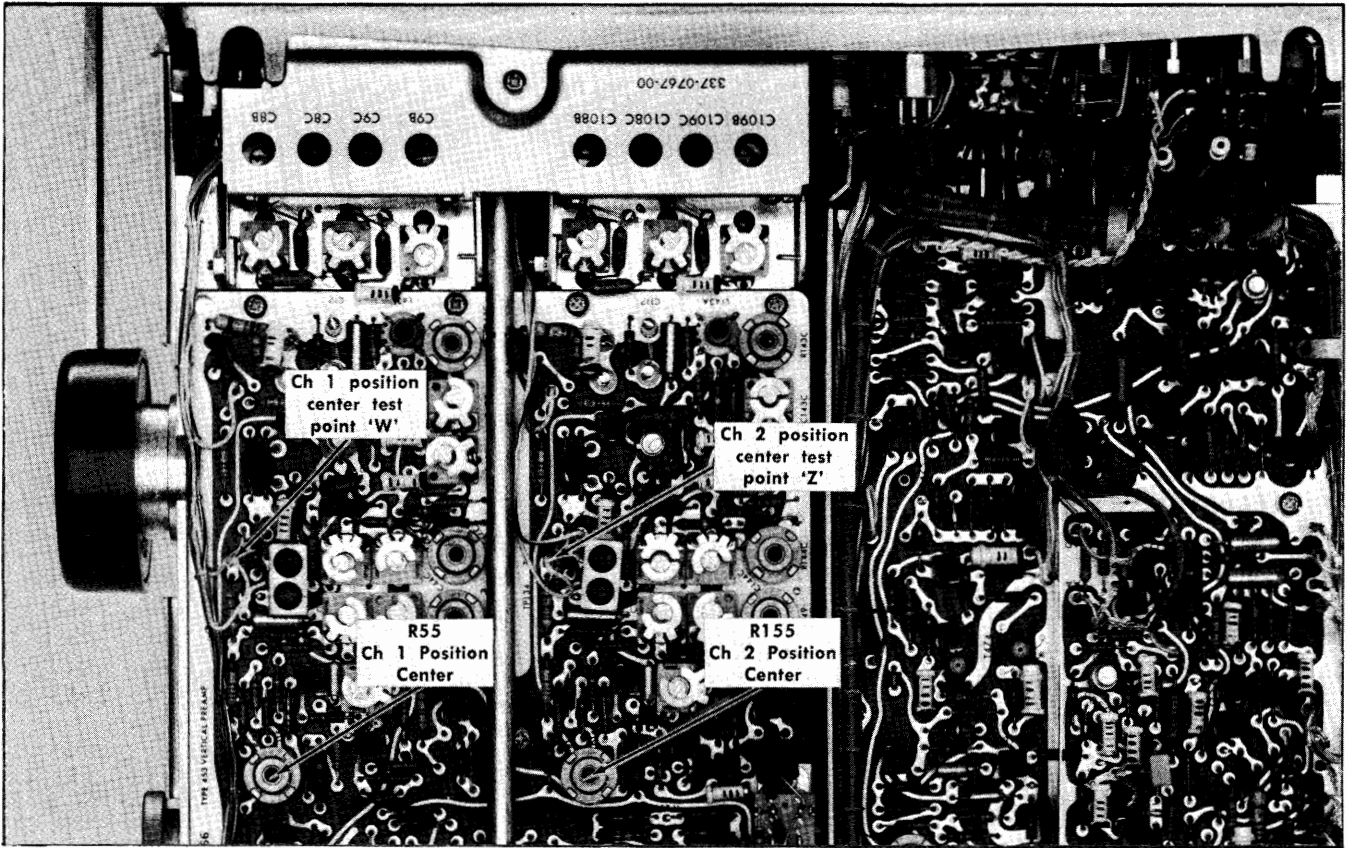

Fig. 5-11. Location of Channel 1 and 2 position center test points and adjustments (Vertical Preamp circuit board).
a. Connect the precision DC voltmeter between the Channel 2 position center test point (pin connector 'Z') on the Vertical Preamp board (see Fig. 5-11) and chassis ground.
d. ADJUST—CH 2 Position Center adjustment, R155 (see Fig. 5-11), to position the trace to the center line.
f. Connect the precision DC voltmeter between the Channel 1 position center test point (pin connector 'W') on the Vertical Preamp board (see Fig. 5-11), and chassis ground.
i. ADJUST—CH 1 Position Center adjustment, R55 (see Fig. 5-11), to position the trace to the center line.